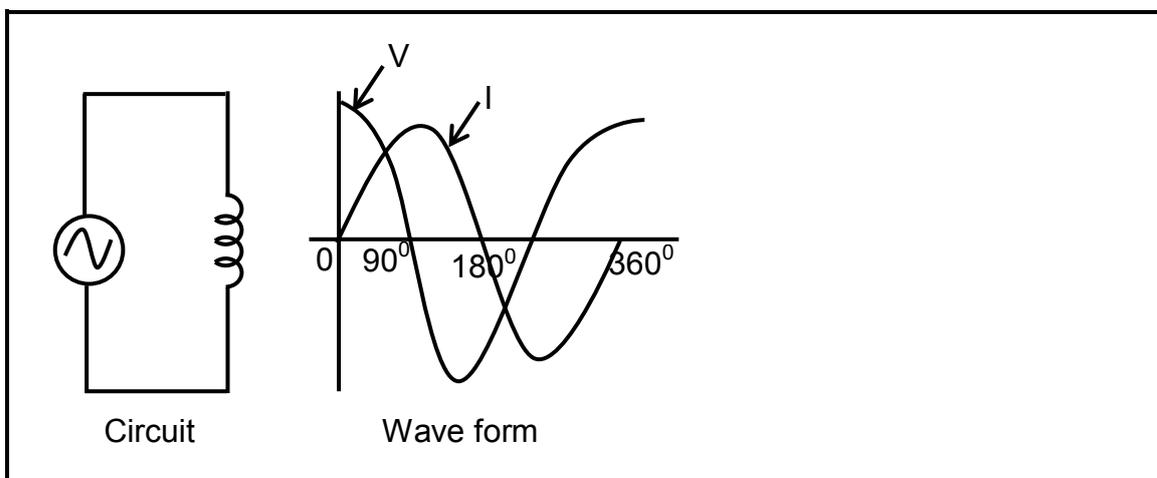

FIGURE 6.1
6.2 Refer to the circuit in FIGURE 6.1 below and answer the questions that follow.